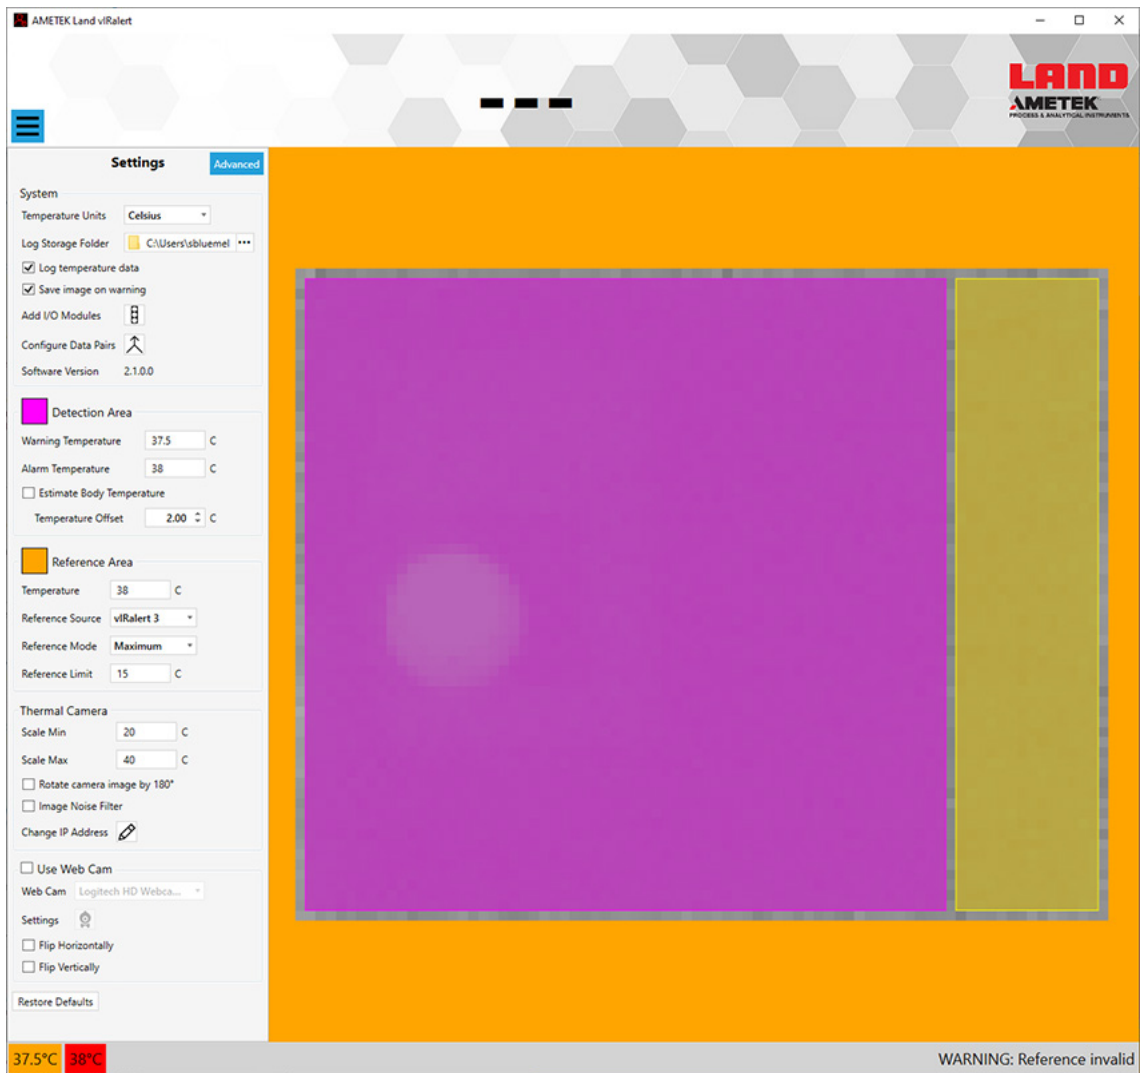

Fig. 5-2 Typical Advanced Settings screen display
- 1) In the VIRALERT LITE interface, click on the **Advanced** button to display further settings options, as shown in Fig. 5-2.